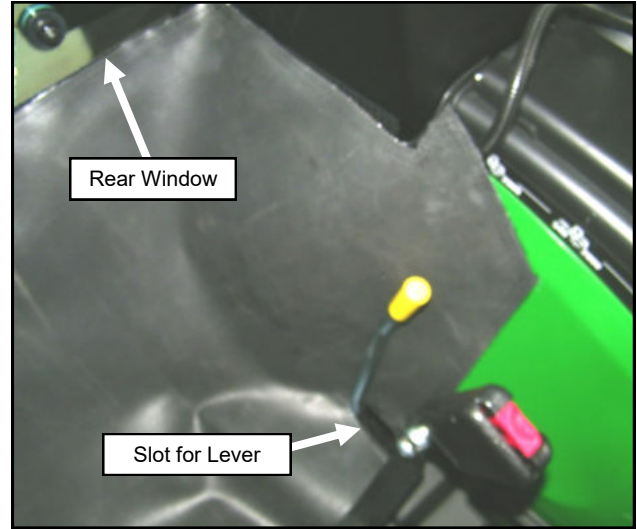

Fig. 22.2a (Install Under Seat Filler)
**22.2** Tip the seat forward and set the filler in place. See Figures 22.2a and 22.2b. Adjust the Velcro so that the back will be on the glass above the rubber seal, the sides are on sheet metal and the corners of the filler roughly line up with the corners of the rear legs, and the front edge is far enough back to not interfere with the function of the levers and knobs.